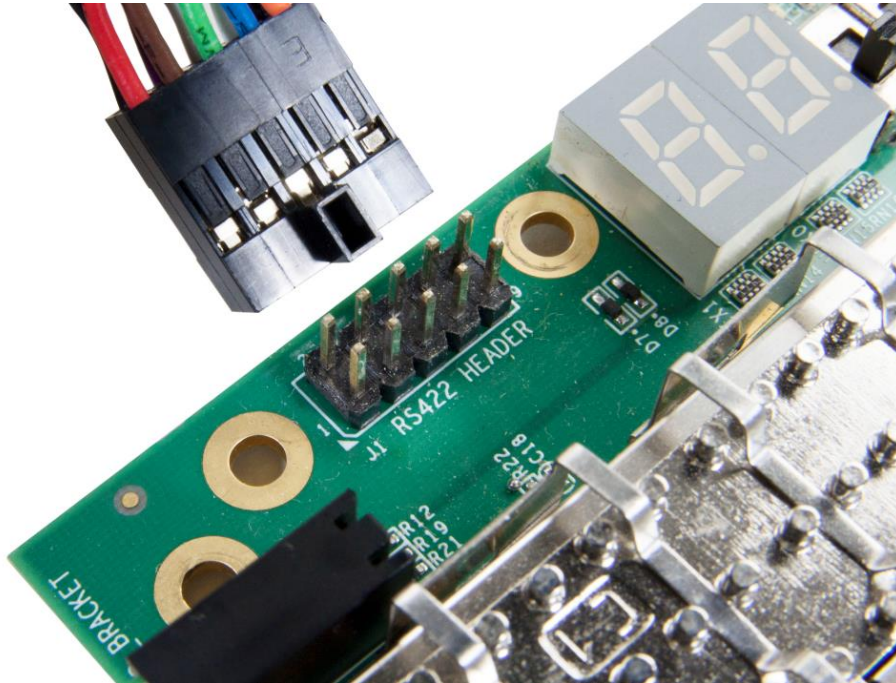

Figure 3-6 Inserting direction of 2x5 cable
3. Follow the inserting direction of 2x5 cable, as shown in **Figure 3-6**.